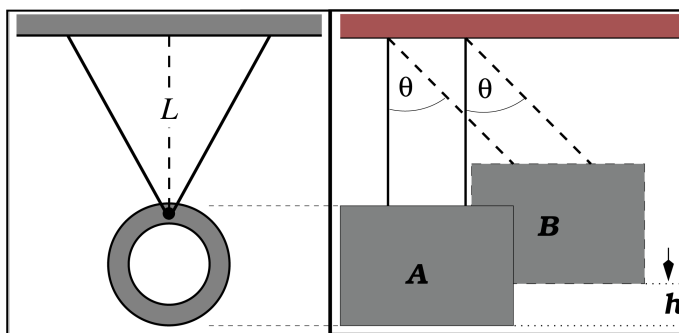

Figure 2: Front and side views of the catcher
To find  $V$ , note that motion **after** impact conserves mechanical energy. Hence the kinetic energy of the ball plus catcher at  $A$  in Fig. 2, just after impact, equals the potential energy of the two at the top of the swing (at  $B$ ). Thus
3. Measure  $m$ ,  $M$  and the length  $L$  of the pendulum (see Figure 2). Also record  $\Delta L$ , the uncertainty in  $L$ . Try to minimize parallax error when measuring  $L$ .